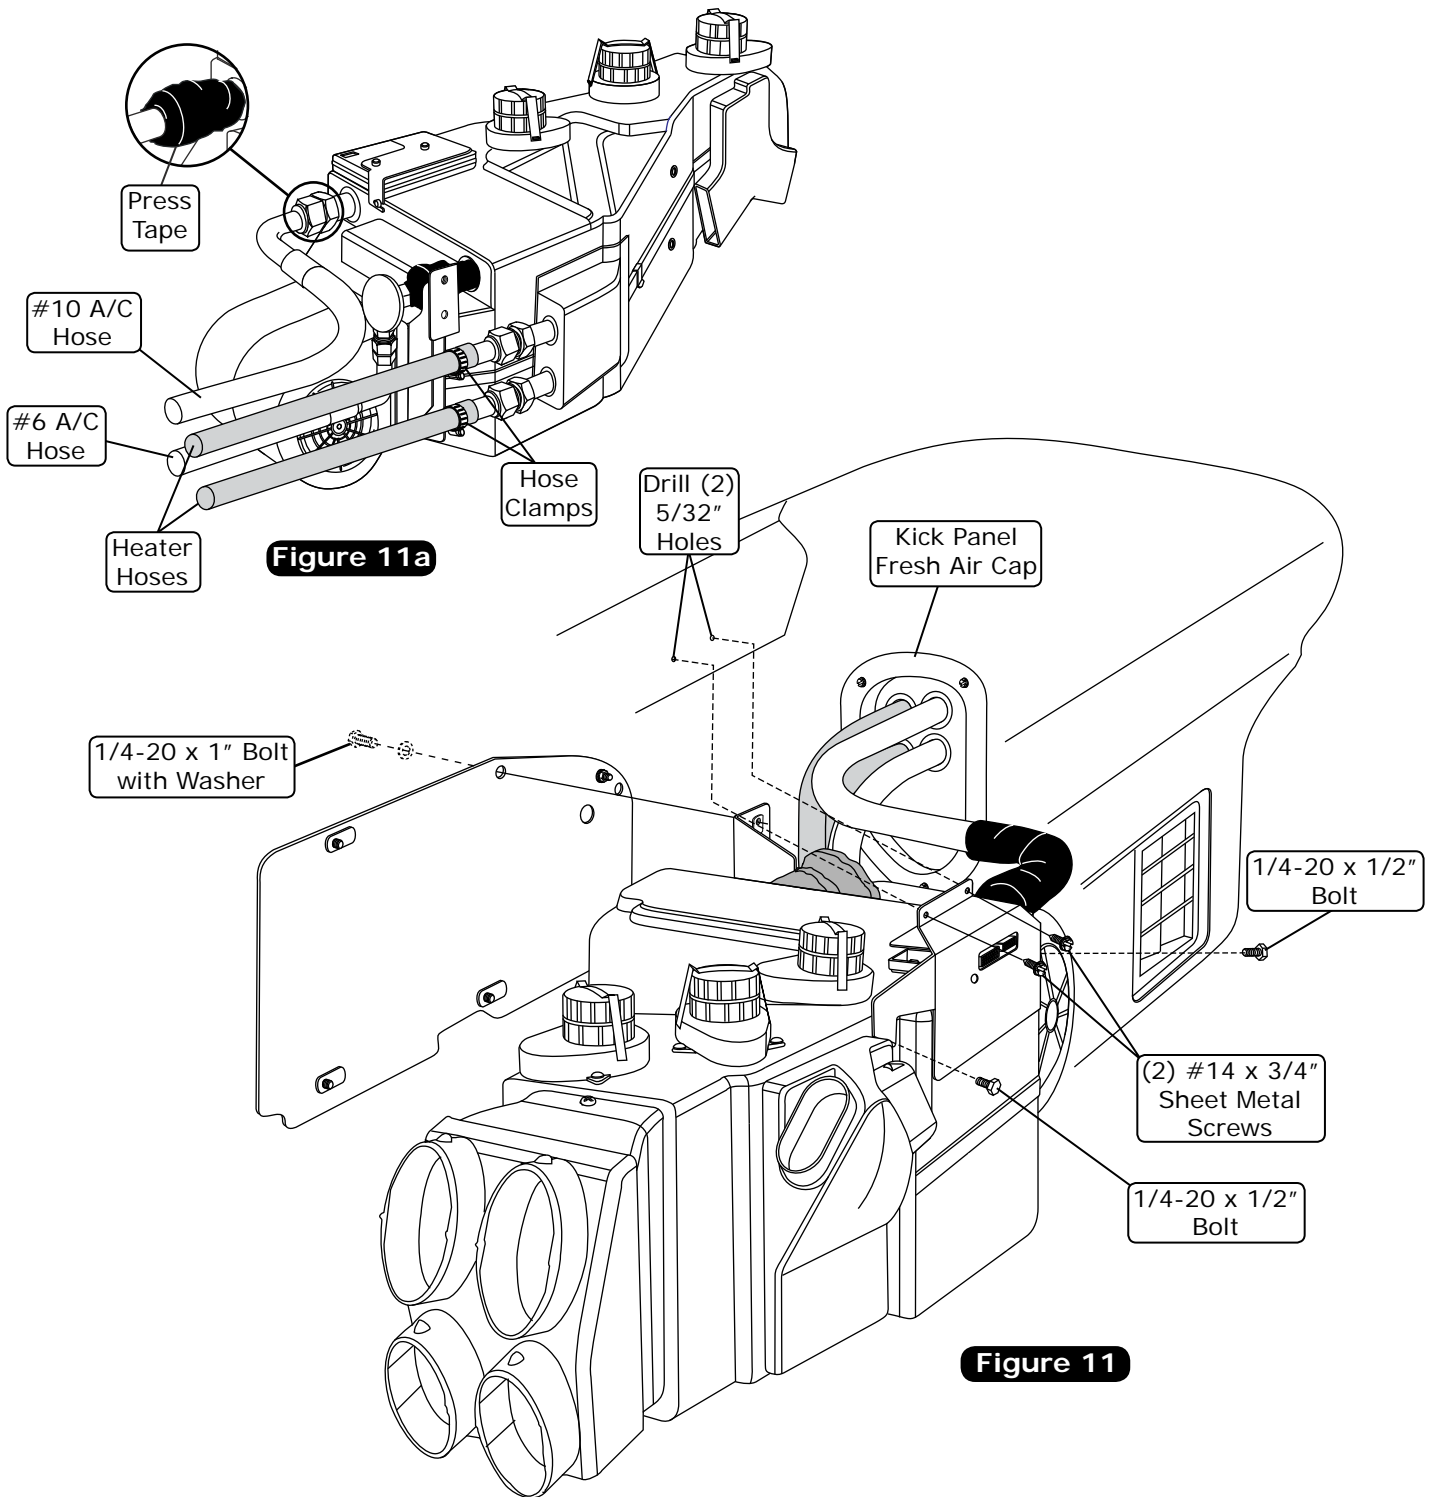

**Figure 10**
1. On a workbench, install the evaporator rear bracket using (2) 1/4-20 x 1/2" bolts (supplied on the evaporator sub case) (See Figure 10, Page 18).
2. Install (2) heater fittings (See Figure 10, Page 18) with properly lubricated O-rings (See Figure 13, Page 20).